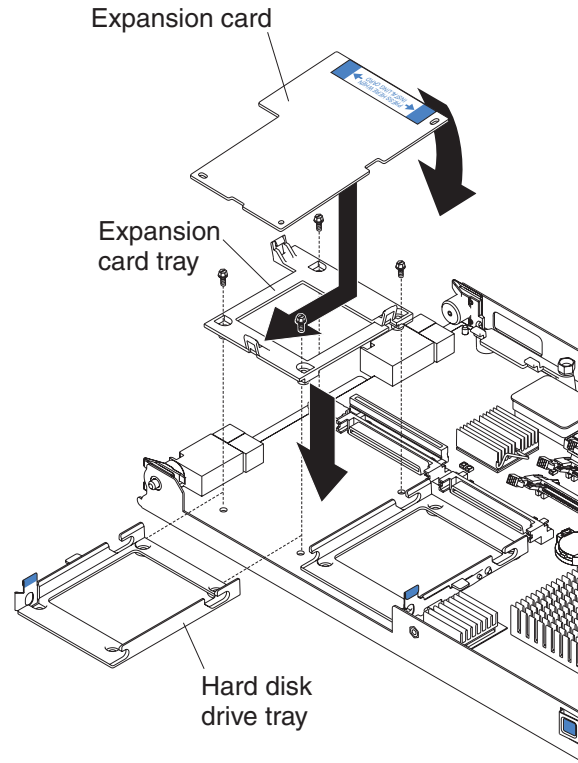

Figure 26. Installing a standard-form-factor I/O card in the blade server
- a. Install the expansion card tray (see **2**, Figure 26). Secure the tray to the system board with the screws from the option kit or from the removed drive tray.
- b. Orient the expansion card and slide the notch in the narrow end of the card into the raised hook on the tray (see **3**, Figure 26); then, gently pivot the wide end of the card into the expansion card connectors (see **4**, Figure 26).